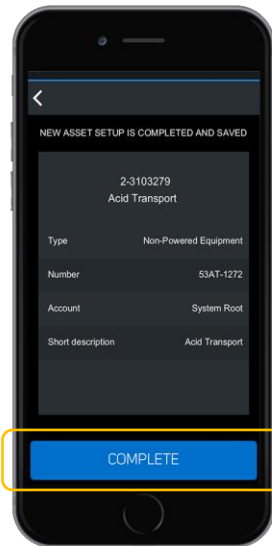
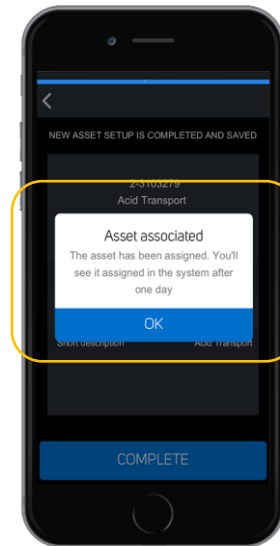

FIG. 5
FIG. 6
- 7) The last step is to confirm the Asset Setup and tap "Complete" (FIG. 5). A confirmation message will appear letting the user know that the asset has been assigned and will show up in the system after one day (FIG. 6). Tap "OK".